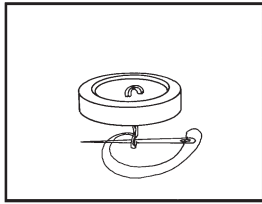

Fig. 14-15
7. Remove the toothpick and gently pull the button away from the fabric. Bring the needle and thread up through the fabric and pull the needle out beside the thread under the button. Wrap the thread on the needle firmly around the threads under the button several times to make a thread shank. (The thread shank will allow room for the fabric with the buttonhole when fastened to the button.) (Fig. 14-15)